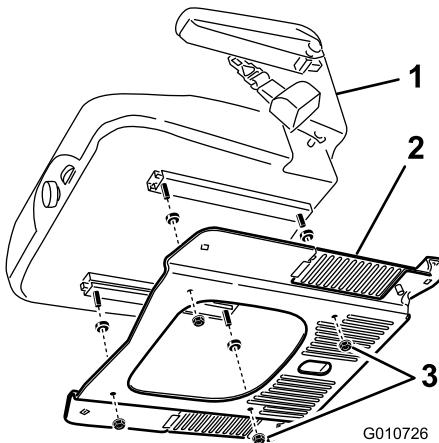

Figure 8
- 2. Secure the seat plate to the seat with 4 flange nuts (5/16 inch) (Figure 8)